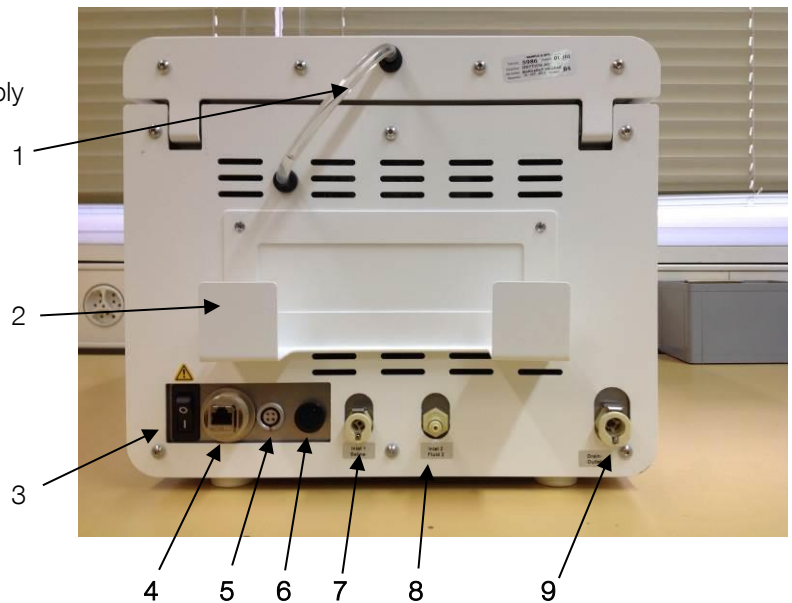

fig. 7.1
Install the power supply in its mounting bracket on the rear side (see Fig. 7.1, Pos. 2) and plug the connector to the DC input (Fig. 7.1, Pos. 5). Plug the provided main power cable into the power supply and the other side to the power source.
Plug the connector from the fill hose to the inlet 1 on the rear side (Fig. 7.1, Pos. 7) and dip the other side with the suction-tube into the container with the saline solution.
If your device has the optional inlet 2, plug the connector from the fill hose 2 to the inlet 2 on the rear side, see on fig. 7.1, Pos. 8 afterwards dip the other side with the suction tube into the container with the fluid 2 solution.
Plug the connector from the drainage hose to the outlet on the rear side, see on fig. 7.1 pos. 9, and put the other side into the waste.
Push the ON / OFF main switch (fig. 7.1, Pos. 3). The start initialization needs approx. one minute.